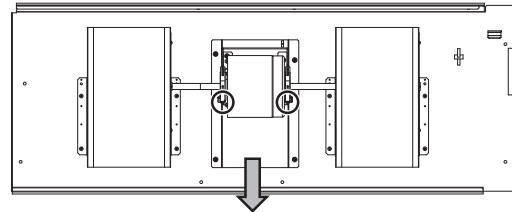

Fig.7
- (2) Remove the two fixing screws and attachment on the fan motor (Fig. 7).
- (3) Pull out the fan motor in the direction of the arrow (Fig. 7).